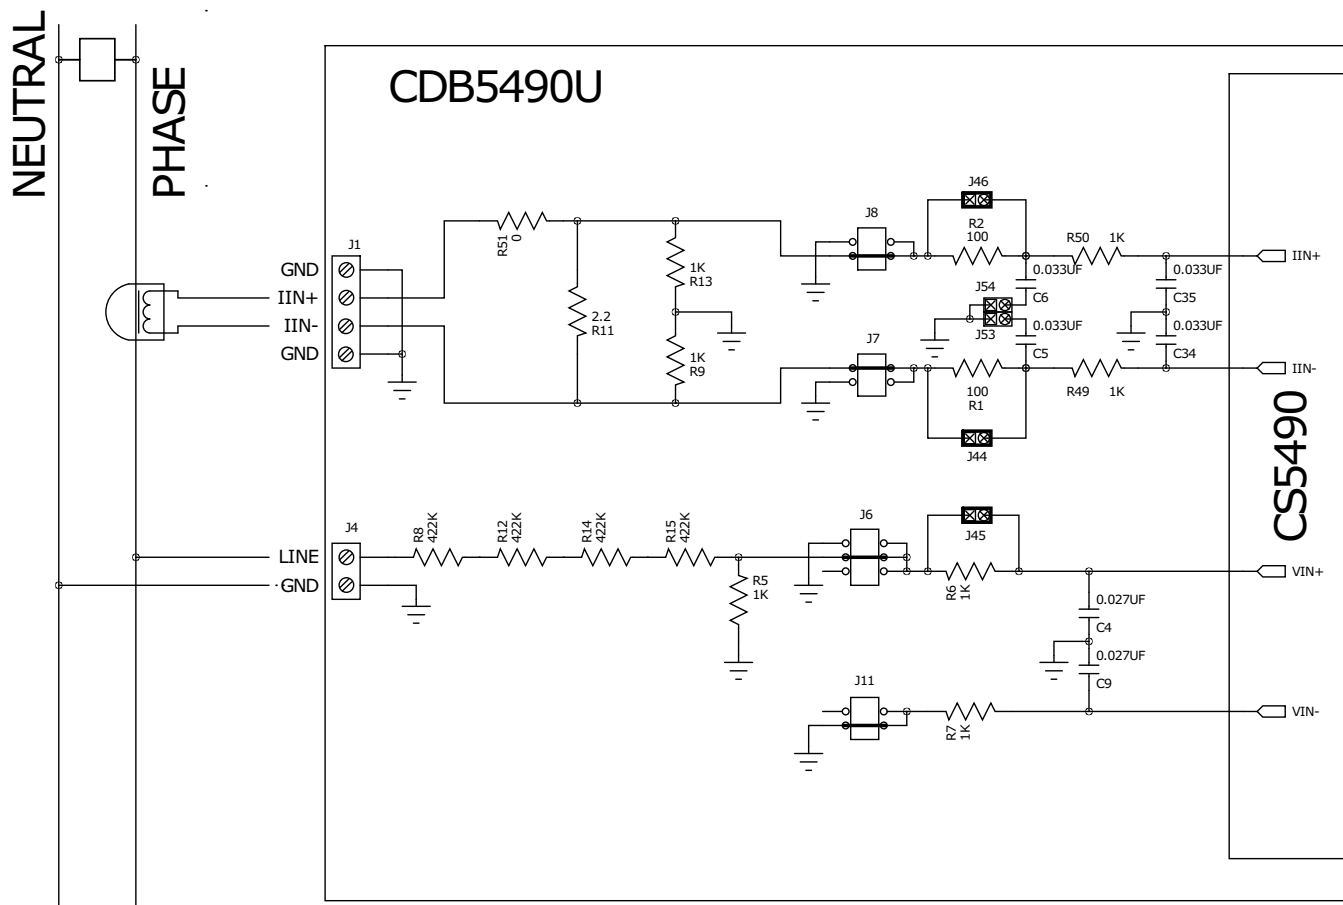

Figure 7. Current Transformer Power Meter
A slightly more expensive option is to use a current transformer (CT) to connect the AC current to the CDB5490U evaluation board. Figure 7 depicts the voltage and current connections for a CT sensor and its associated filter configurations.